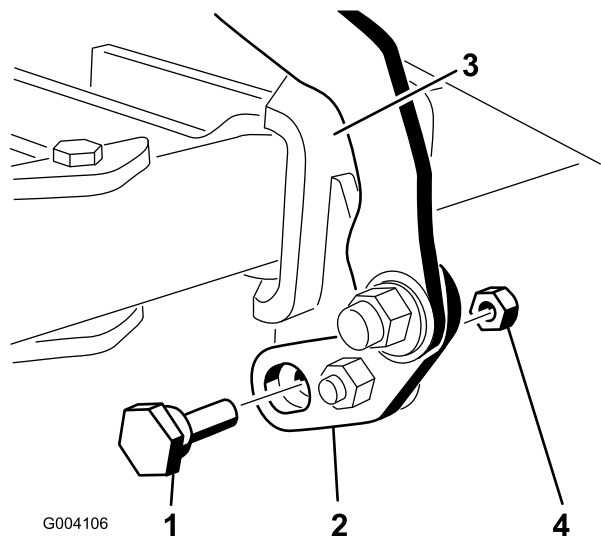
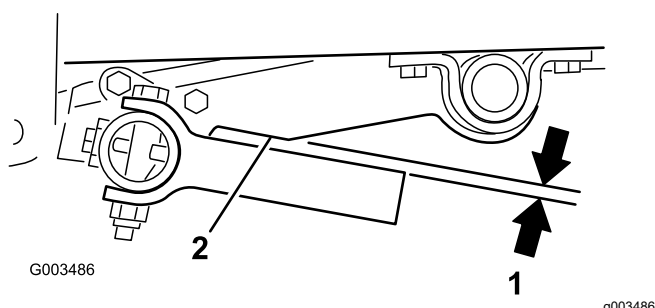

Figure 17
Figure 21
6. Install the eccentric bolt through the bottom of the pivot tab and the pivot bracket, and secure it using a locknut (5/16 inch) as shown in Figure 17.
2. Rotate the eccentric bolt either direction until the toolbar tines are parallel to the notch in the lift arm (Figure 17 and Figure 21).